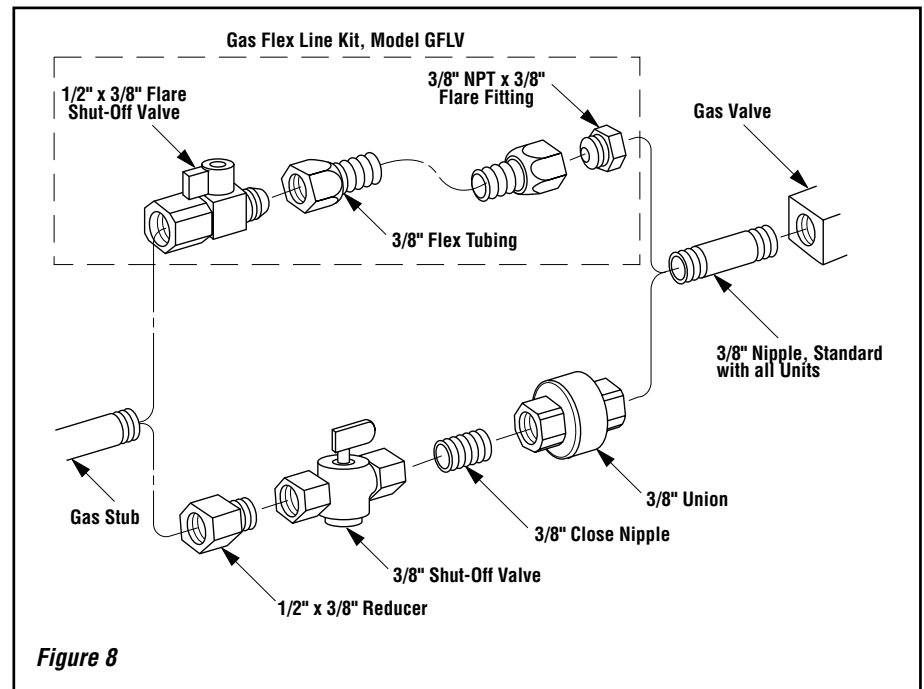

Figure 8
Step 4. Connecting Gas Line – Make gas line connections. All codes require a shut-off valve mounted in the supply line. Figure 8 illustrates two methods for connecting the gas supply. Installation methods and materials must be in compliance with local codes.